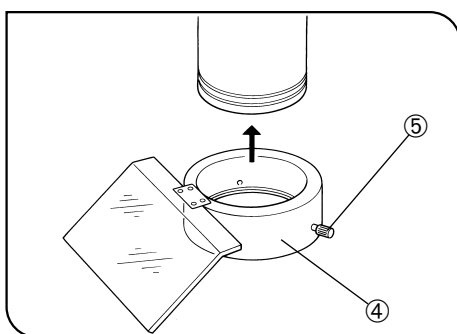

Fig. 18
- ⊙ If the reflection from the specimen surface makes viewing uncomfortable, attach the optional SZX-CCV glare shielding plate ④ onto the extremity of the objective and tighten the 2 clamping knobs ⑤. (Fig. 18)